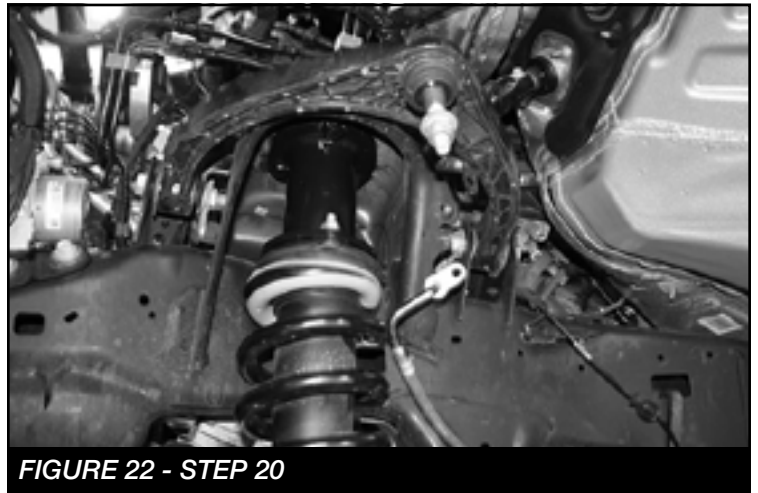

FIGURE 22 - STEP 20
20. Install the complete shock assembly into the truck attaching the three upper bolts first using the supplied 7/16" C-lock and flat washers, leave loose. Torque upper hardware to 83 ft. lbs. **SEE FIGURE 22** Repeat on passenger side.